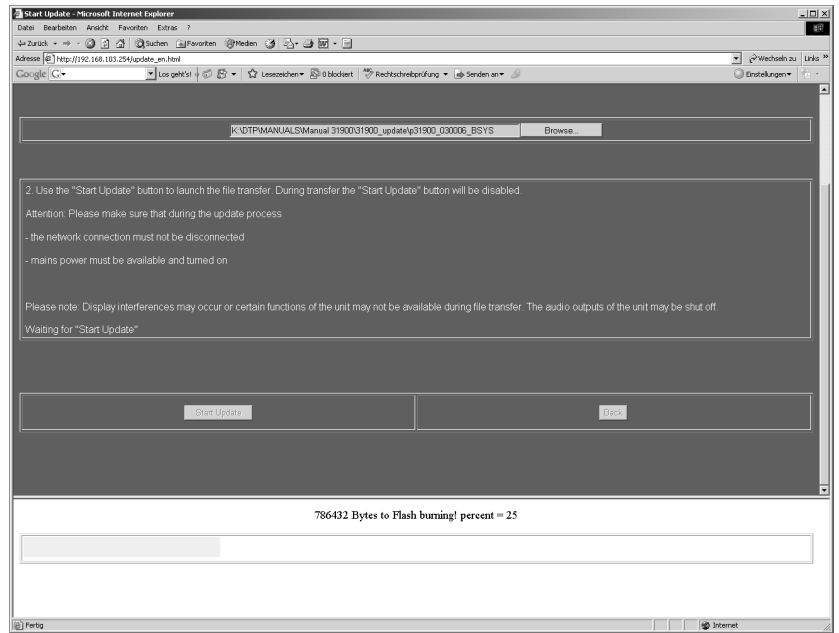

Fig. 8-9: Progress of the data transfer of the selected update file
7. A bar on the lower end of the update window on the PC reads the data transfer progress (see Fig. 8-9).